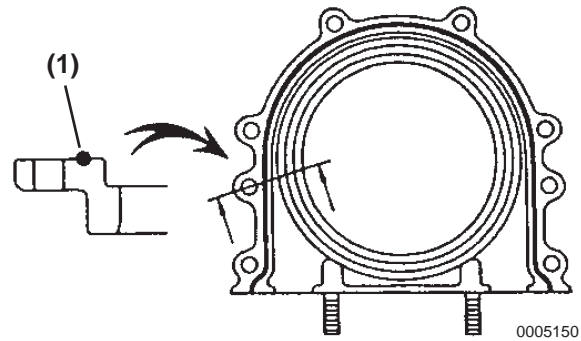

Figure 5-153
4. Apply seal packing (TOYOTA P/N 08826-00080 or equivalent) to the case as shown (**Figure 5-153**). Apply the seal packing in a width of 2 to 3 mm (0.08 to 0.12 in.) (**Figure 5-153, (1)**).